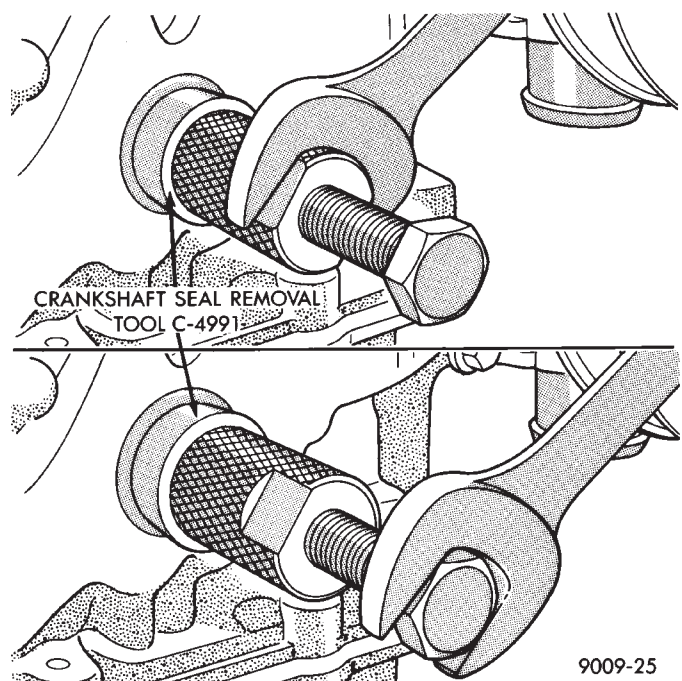

Fig. 8 Removing Crankshaft Oil Seal
- (3) Using Tool C-4991 to remove oil seal (Fig. 8). Be careful not to damage that crankshaft seal surface of cover.